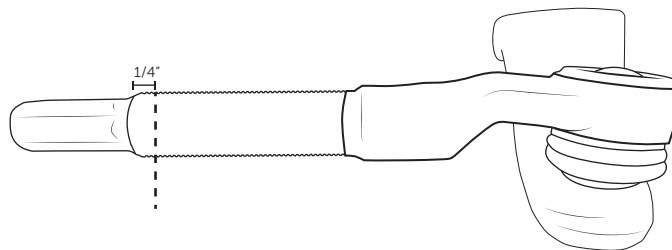

Figure 34
- b. Begin threading draglink end into adjuster. Rotate adjuster until length is close to measurement recorded during disassembly (step 3a). In isolated cases, the OEM pitman arm tie rod end may need to be trimmed slightly to allow draglink assembly to be adjusted short enough. If unable to reach length recorded in step 3a, remove adjuster from OEM pitman arm TRE and trim off clocking feature and 1/4” of thread from the end, being careful not to damage the threads (fig. 34). Clean up the end of the threads, make sure adjuster threads on freely, and then apply paint or anti-rust coating to the trimmed end. Reinstall draglink and adjuster and adjust to length from step 3a.